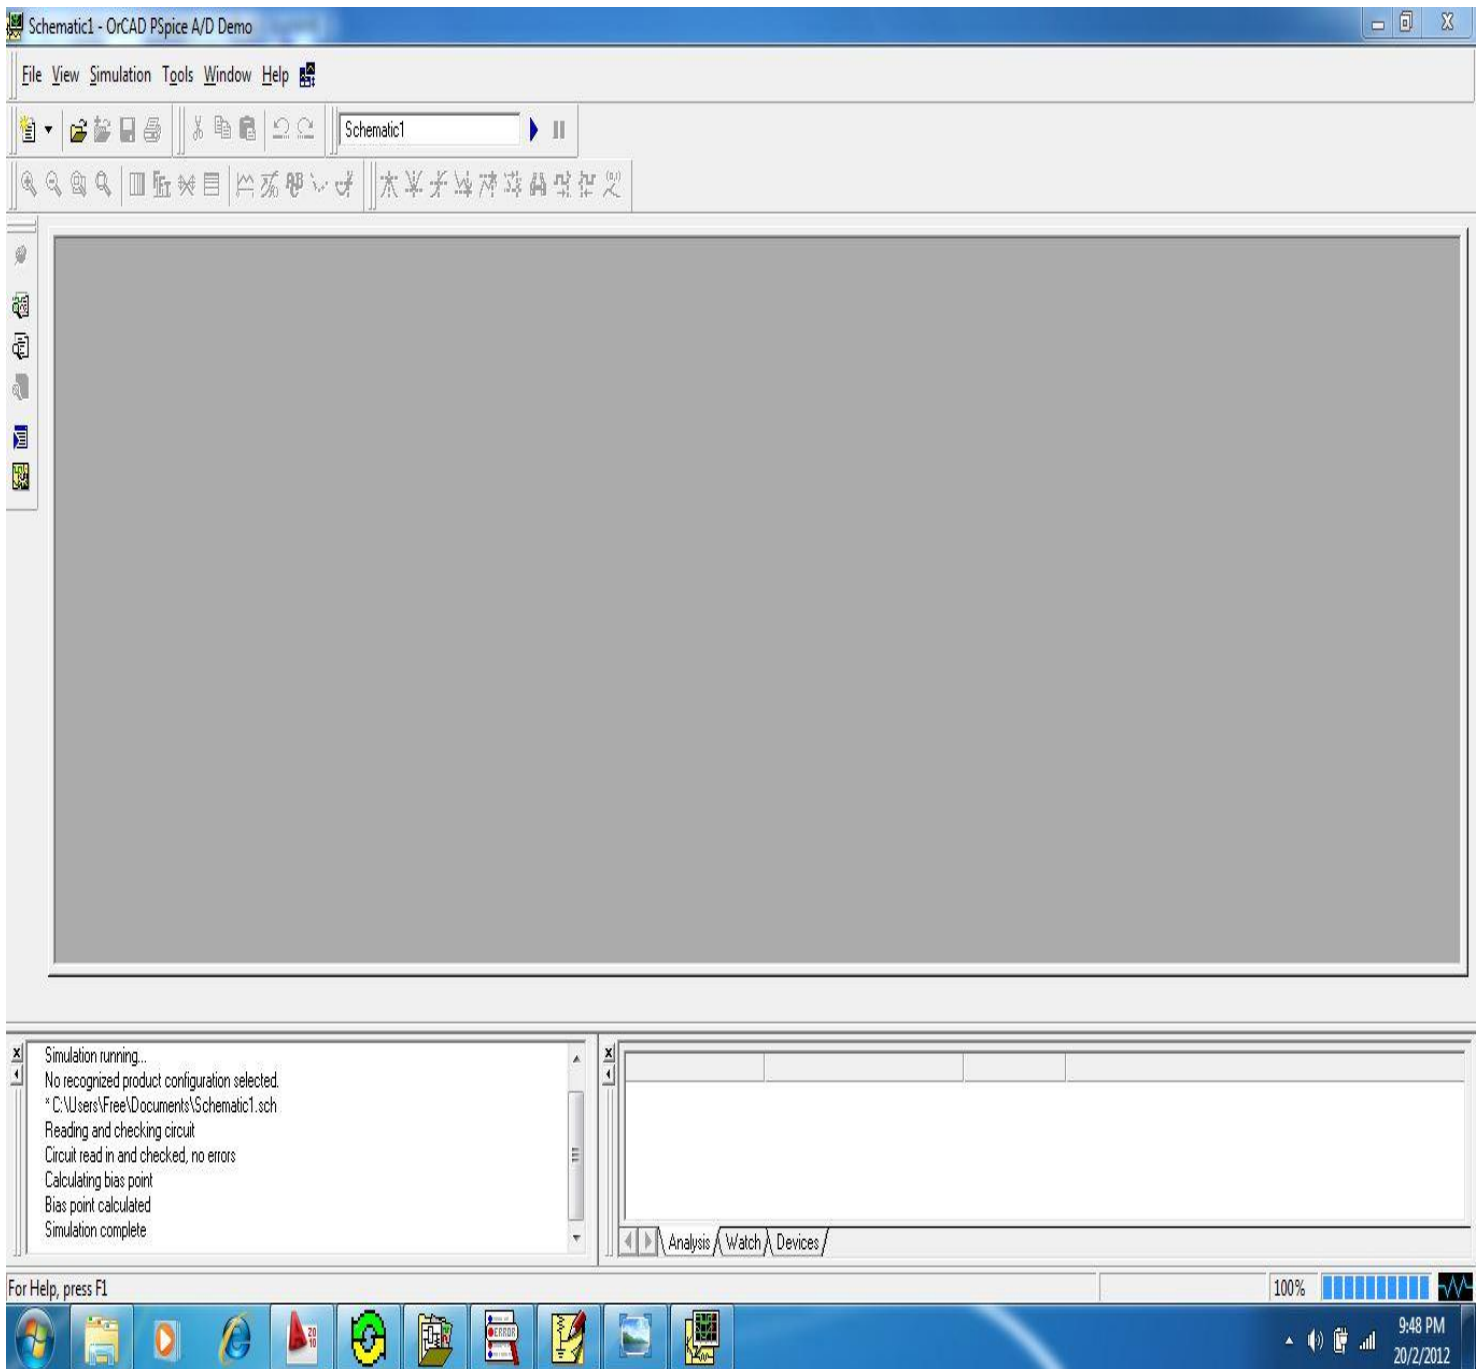

Figure-8
11. The Figure-8 above shows a simulation running where you can get idea of errors and warnings, this can be used as a further step when you get acquainted with software.